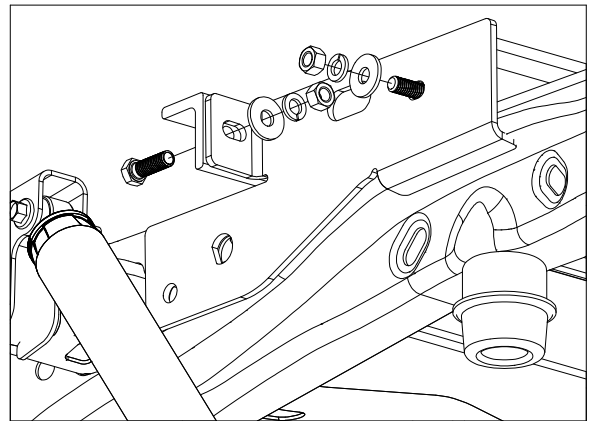

Figure C1: View looking into driver side wheel well.
1. **Install Side Plates.** Install the side plates by placing the top back hole over the stud on the rear cross member with a flat washer, lock washer, and nut, then bolt the front flange of the side plate to the front cross member with a bolt, flat washer, lock washer, and nut, see Figure C1. Do not fully tighten hardware at this time.